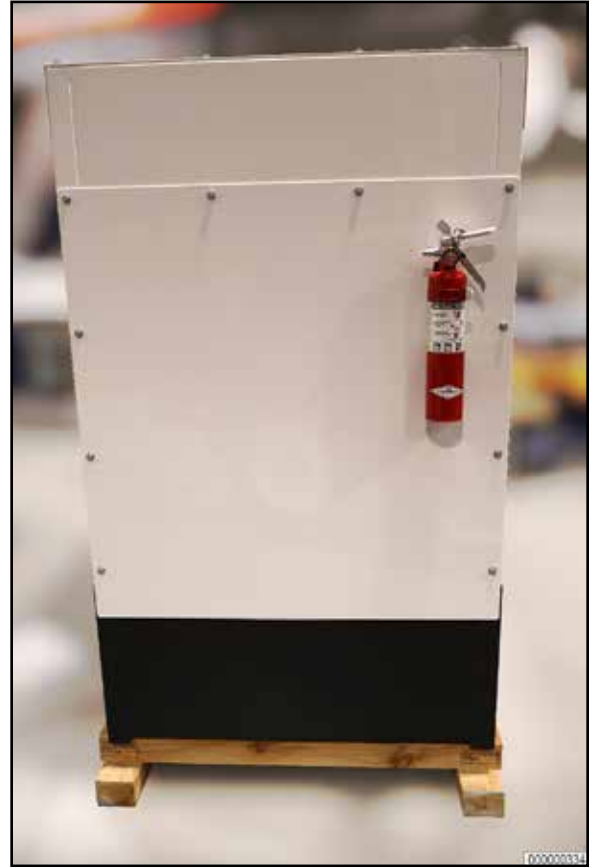

Figure 10
- **Step 17: Place fire extinguisher into mount\holder and secure with clasp. (Figure 10)**